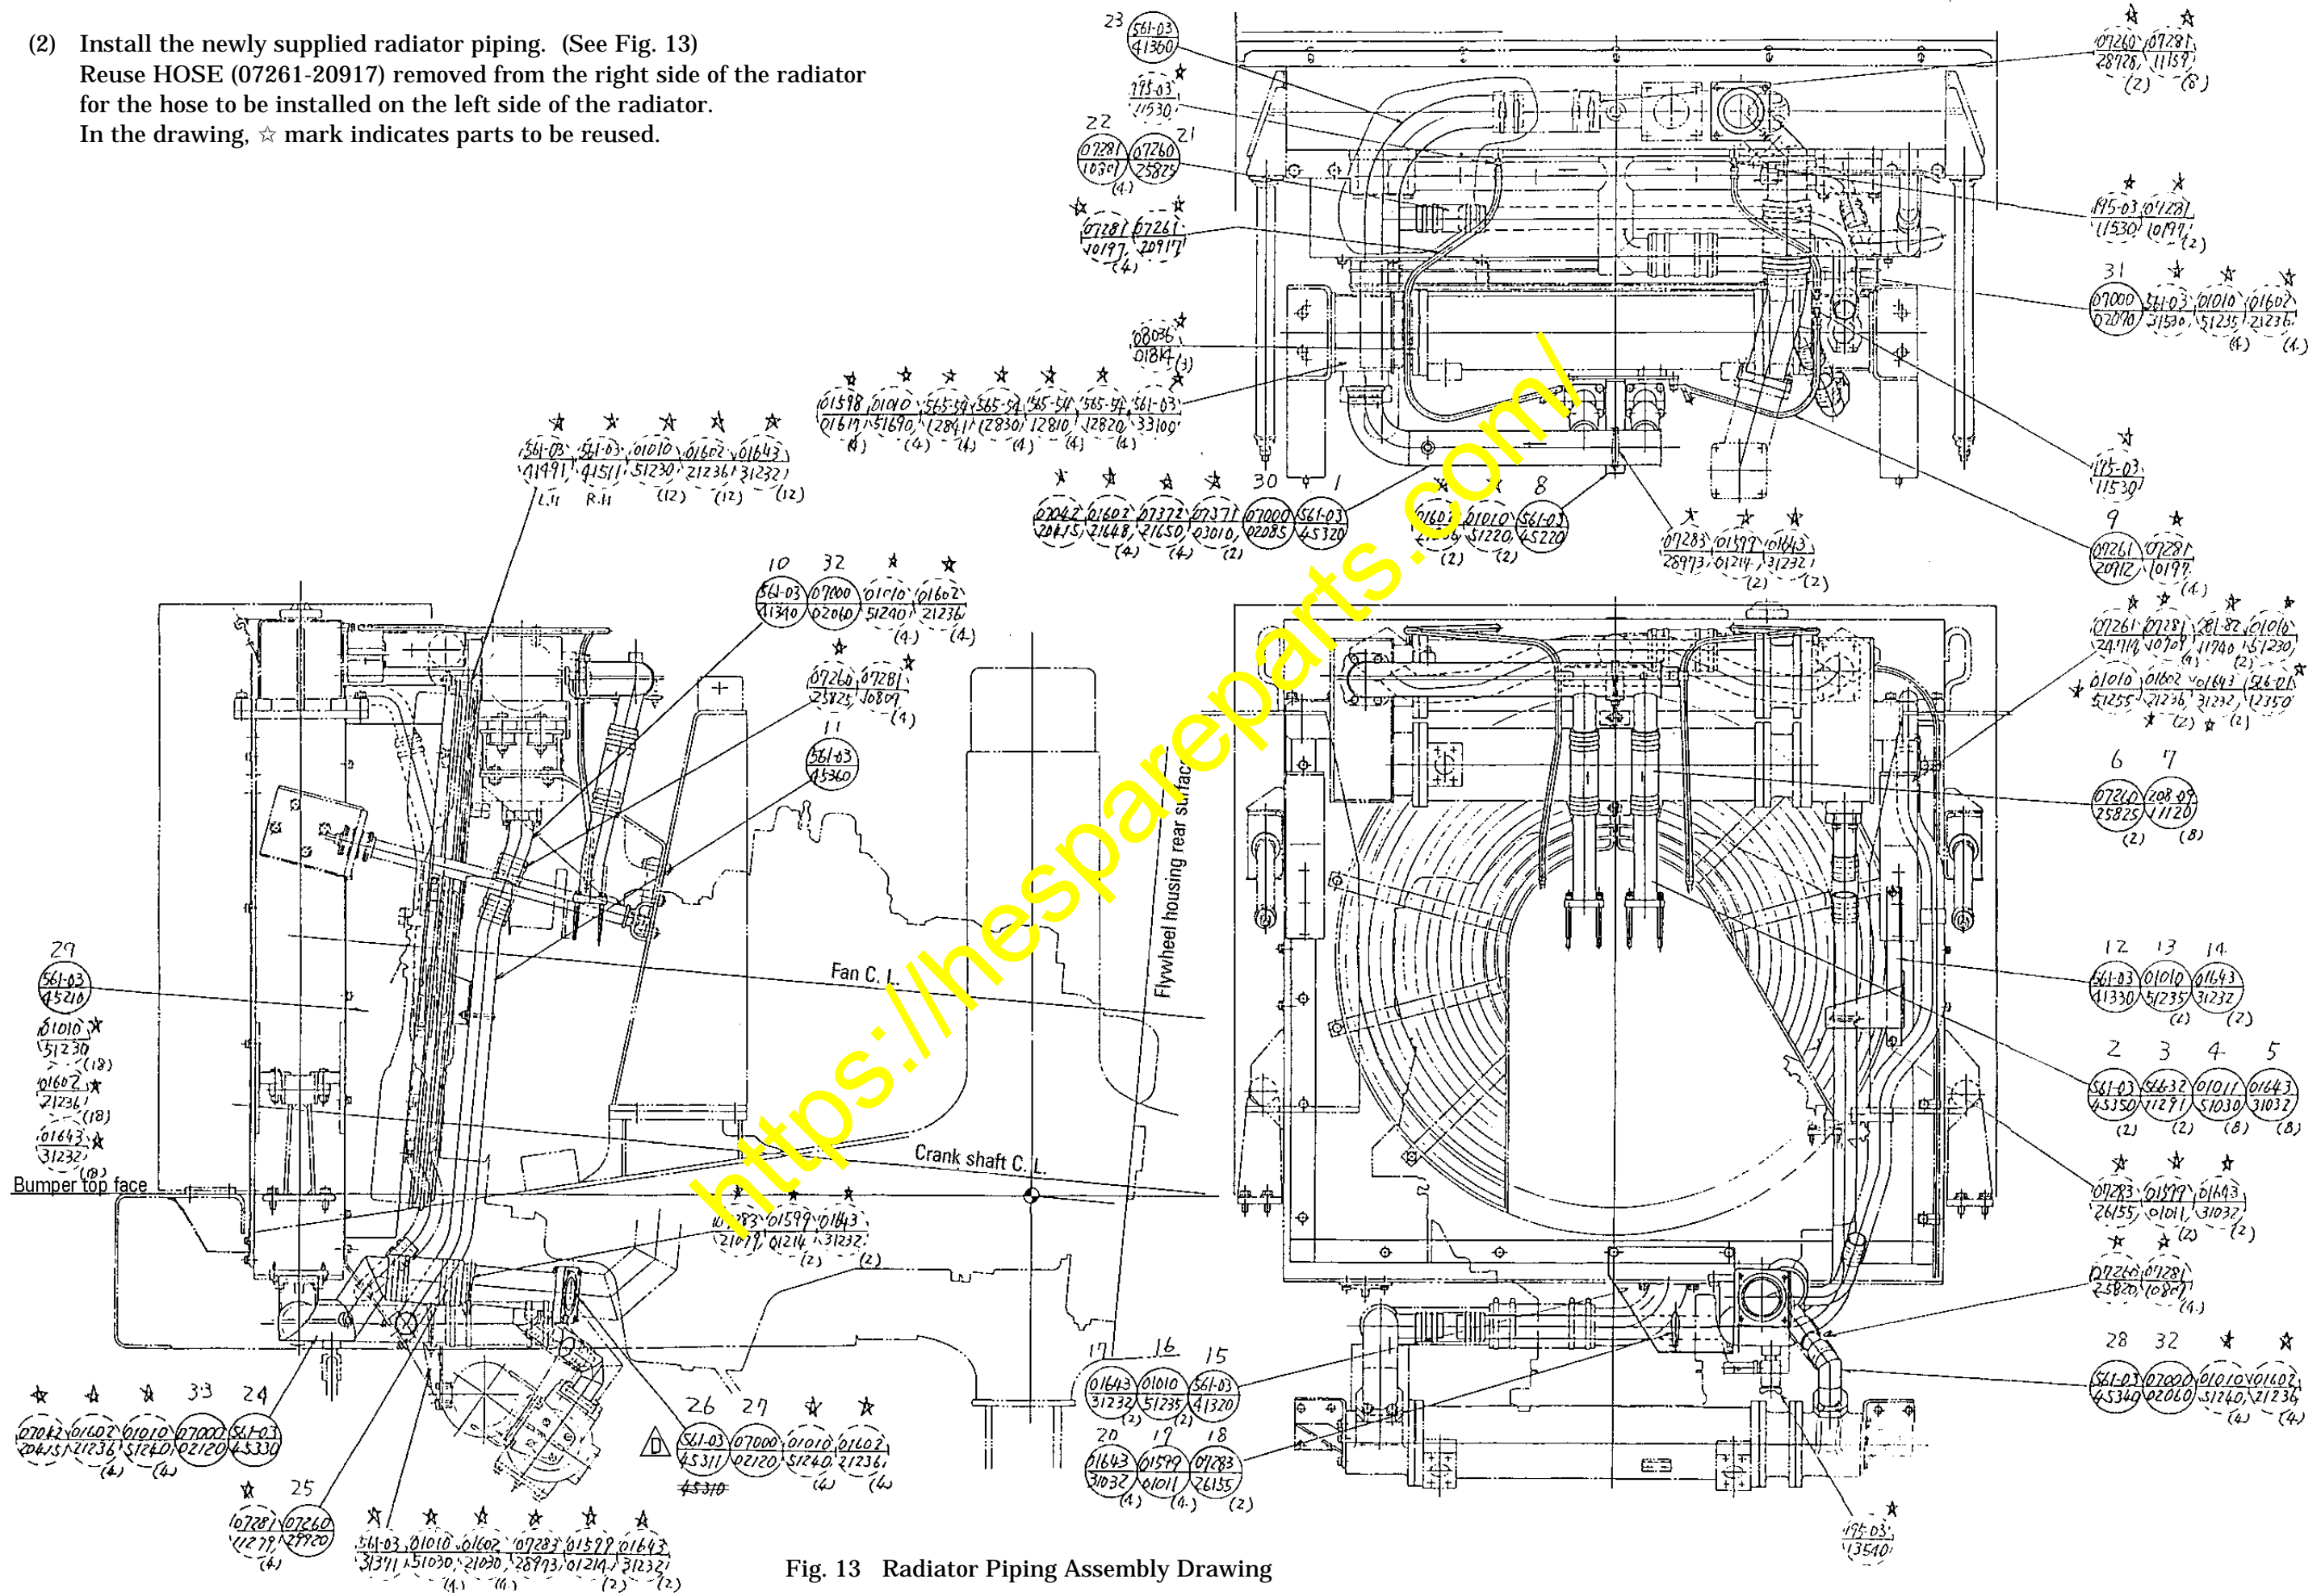

Fig. 13 Radiator Piping Assembly Drawing
(2) Install the newly supplied radiator piping. (See Fig. 13)